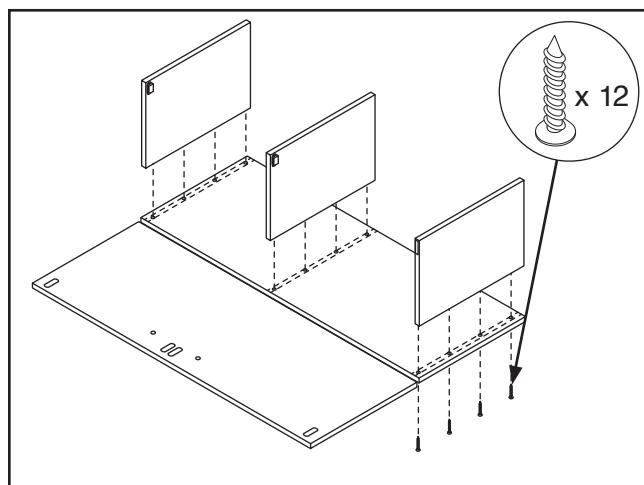

Figure 7. Attaching cabinet side panels, and middle panel to base panel.
5. Slide cabinet side panels and cabinet middle panel into grooves on cabinet base panel, and secure using (12) M4 x 30 tap screws, as shown in **Figure 7**.